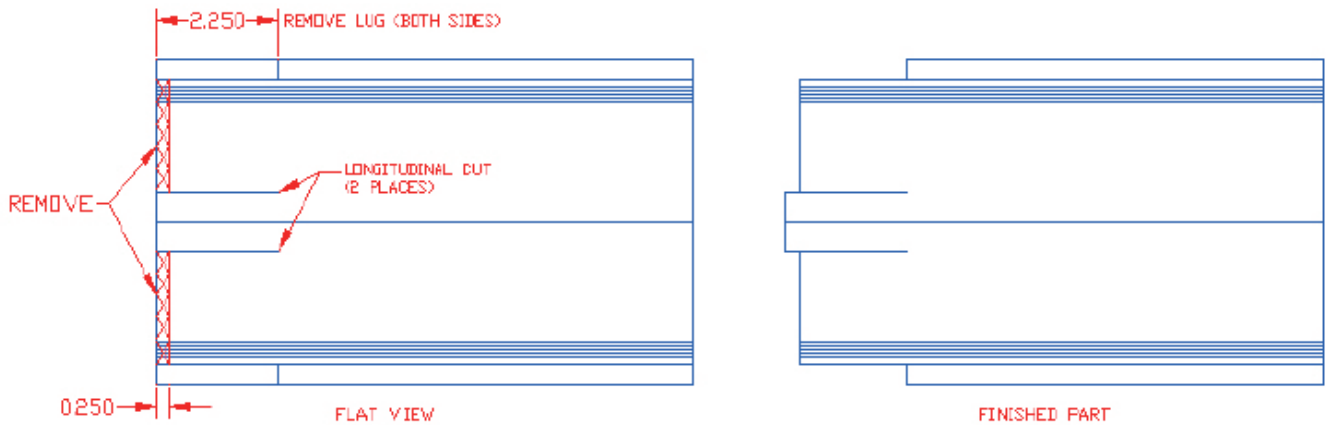

Figure 5 – Cuts required for 90° upturn
- Cut the upturn section as shown in Figure 5.